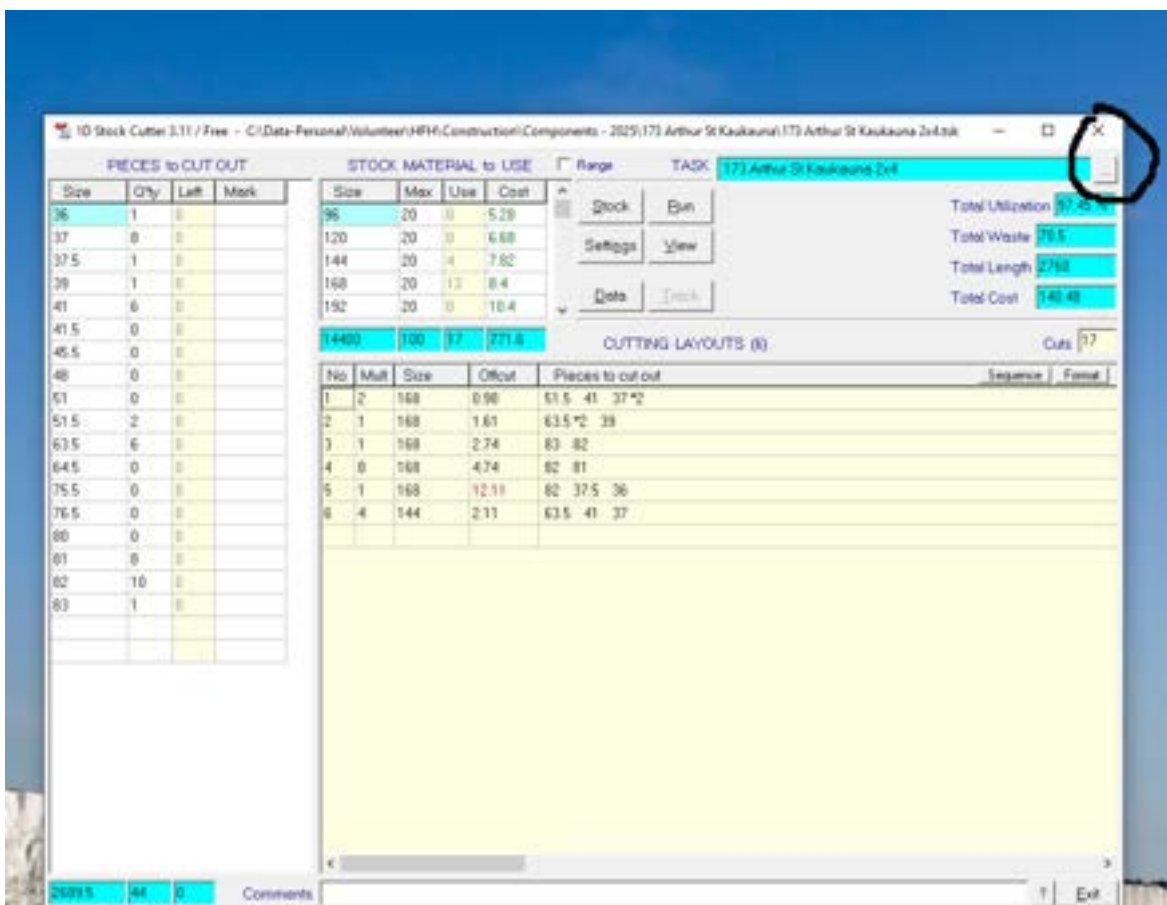

Figure A-1. Stock Cutter Ellipsis Square.
1. In the Stock Cutter program, activate the TASK window by clicking on the square box (containing an ellipsis, i.e. "...") in the upper righthand corner (see Figure A-1). Then, click on "Open task" and navigate to the Masters folder. Open the 2x10 Master.tsk file. In the TASK window at the upper right corner of Stock Cutter, name the task
1. In the Stock Cutter program, activate the TASK window by clicking on the square box (containing an ellipsis, i.e. “...”) in the upper righthand corner (see Figure A-1). Then, click on “Open task” and navigate to the Masters folder. Open the 2x6 Master.task file. In the TASK window at the upper right corner of Stock Cutter, name the task
1. In the Stock Cutter program, activate the TASK window by clicking on the square box (containing an ellipsis, i.e. “...”) in the upper righthand corner (see Figure A-1). Then, click on “Open task” and navigate to the Masters folder. Open the 2x4 Master.tsk file. In the TASK window at the upper right corner of Stock Cutter, name the task